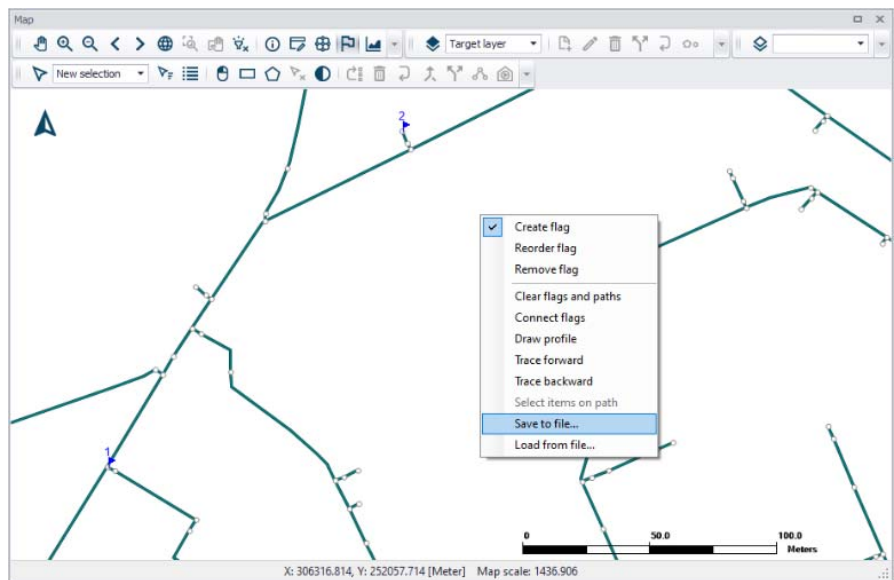

Figure 20.33 Set flags defining the path of the profile plot on the model map
- Click on the starting location for the profile path. Flags can be set on nodes, junctions, and rivers. This will place a small flag at the selected location along with the number of the flag (Figure 20.33).
- Continue setting flags on the map until the path is well-defined. The horizontal plan will then look as seen in Figure 20.33. You may save the set flag information using the 'Save to file...' option from the local context menu. The path information is saved to a *. PATH file, which can be loaded in another session via the 'Load from file...' option.